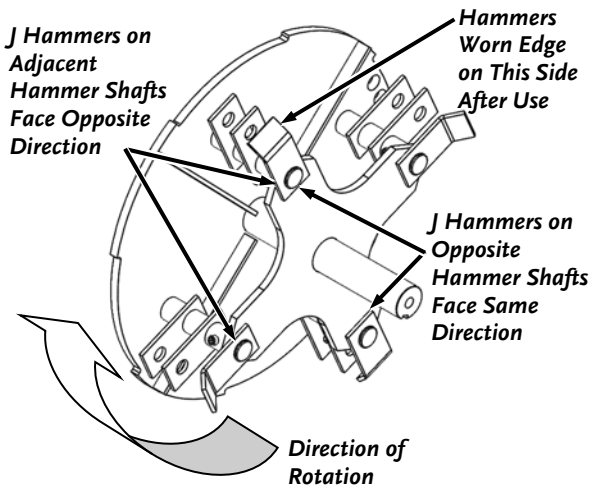

Figure 33
Note: There is 1 J Hammer and 2 Flat Hammers on each Hammer Shaft. J Hammers are oriented in the opposite direction of those on adjacent Hammer Shafts (**Figure 33**).
9. Repeat steps 4 through 8 for the other three sets of Hammers. Confirm that Hammer orientations alternate as shown in Figure 33. Correct them if needed.